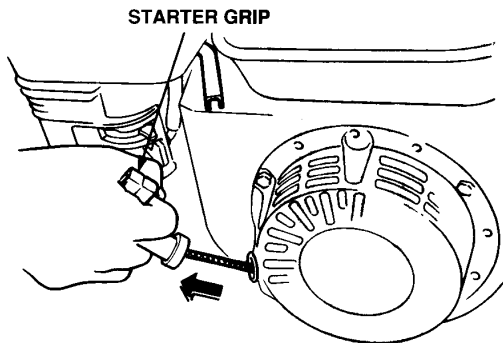

Figure 24. Starter Grip
5. Grasp the starter grip (Figure 24) and slowly pull it out. The resistance becomes the hardest at a certain position, corresponding to the compression point. Pull the starter grip briskly and smoothly for starting.